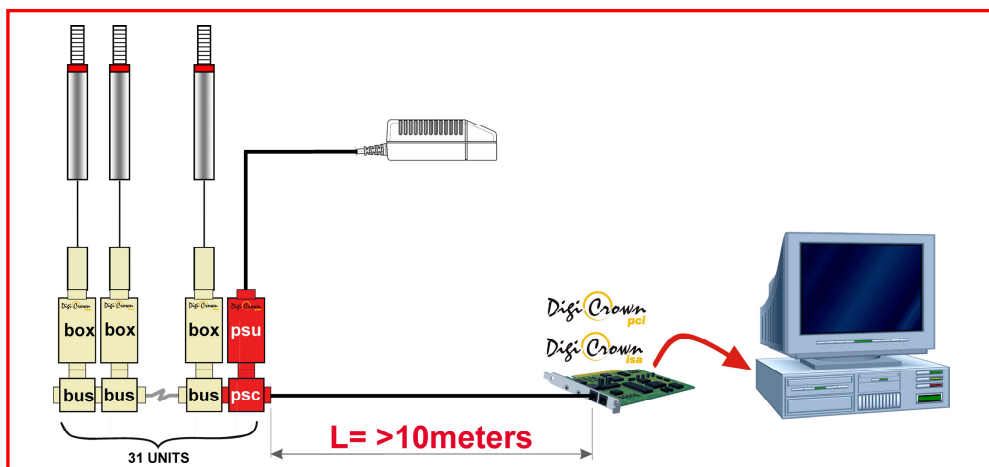

Fig. 3
- the power supply generated by the *DigiCrown PCI/ISA* modules (RS-485) is insufficient for a long cable: a *psu* module is installed in order to cope with the voltage drops (see example reported on Fig. 3).